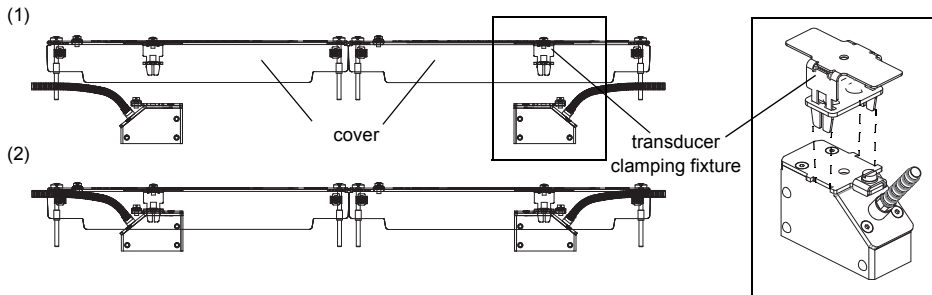

Fig. 9.27: Transducers in the cover
- Press the transducers firmly on the transducer clamping fixture in the covers until the transducers are firmly fixed (one transducer in each cover). The transducer cables show in opposite directions (see Fig. 9.27).